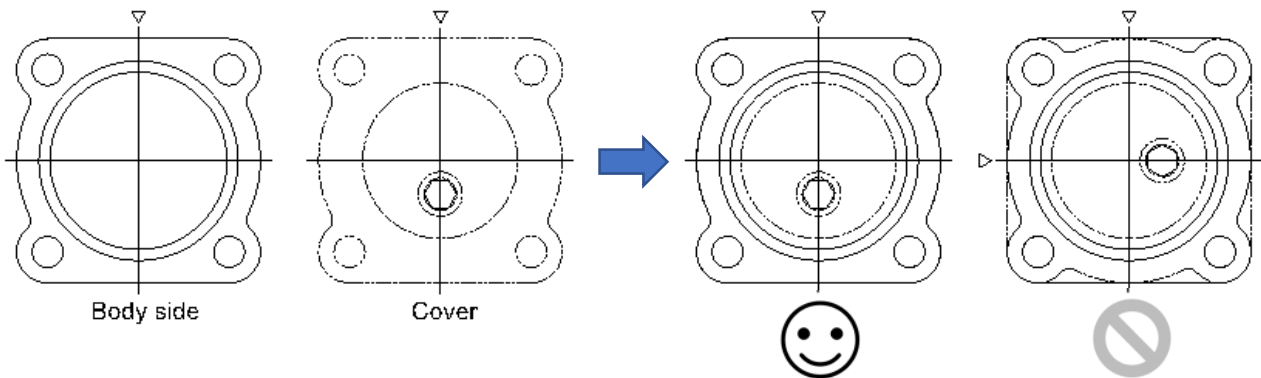

Figure 5 Assembly direction of the cover
- Covers in some sizes have direction for assembly. To avoid stress of the parts, please match the direction to the body, the wrong direction can cause large stress to related parts. See figure 5.